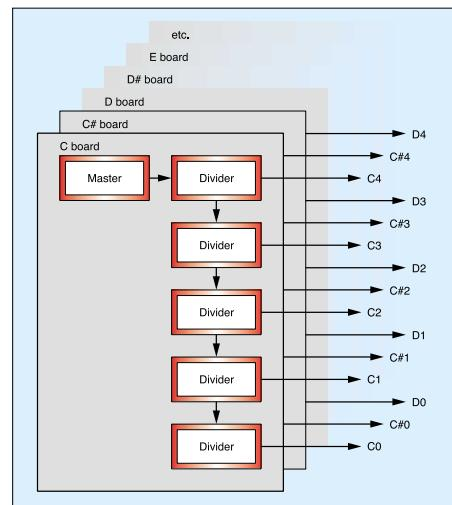

Figure 3: Octave divider boards.
► of master oscillators and dividers is therefore double that shown in Figure 5 (see Figure 3, opposite).